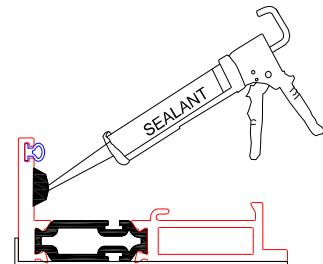

Figure 9:
- Apply a $1/4" \times 1/4" \times 4"$ bead of compatible sealant from each corner on inner flange of panel (Figure 9 & 10).
1. Before glazing, apply a continuous bead of sealant to the inner frame (Figure 9).